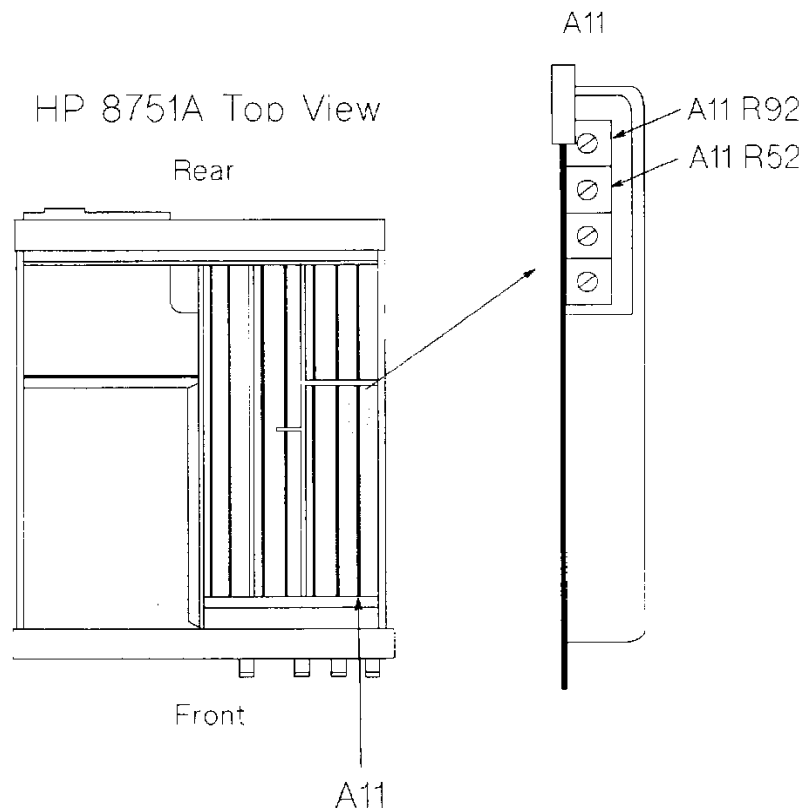

Figure 3-2 Input-B 2nd IF Mixer Tracking Adjustable Component
5. Adjust the A11R52 until the trace is 0 +/- 0.5 deg (The current scale must be 0.5 deg/div.). A11R52's location is shown in Figure 3-2.
7. Adjust A11R92 until the trace is 0 +/- 0.1 dB. (The current scale must be 0.1 dB/div.). A11R92's location is shown in Figure 3-2.